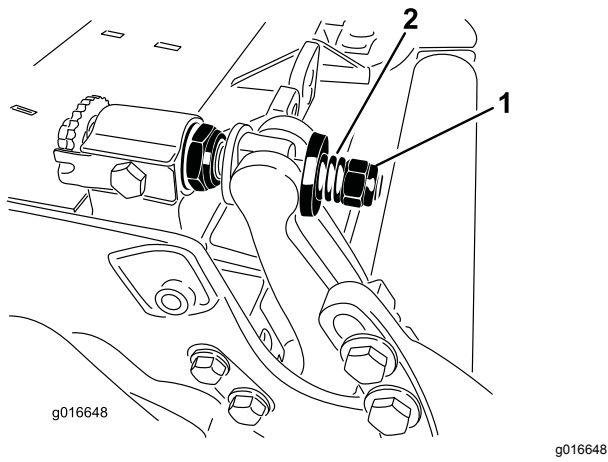

Figure 32
5. Tighten the spring-tension nut until the spring is collapsed, then back off 1/2 turn (Figure 32).
11. Tighten the nut on each bedbar-adjuster assembly until the compression spring is fully compressed, then loosen the nut 1/2 turn (Figure 32).